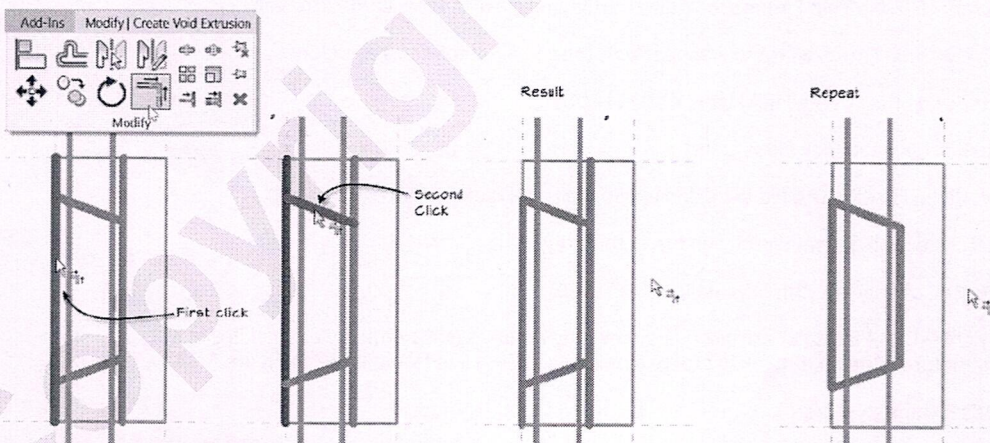

FIGURE 4.64 Edit the sketch lines to finalize the shape
- ⇒ Trim all four corners to make an enclosed shape (see Figure 4.64).